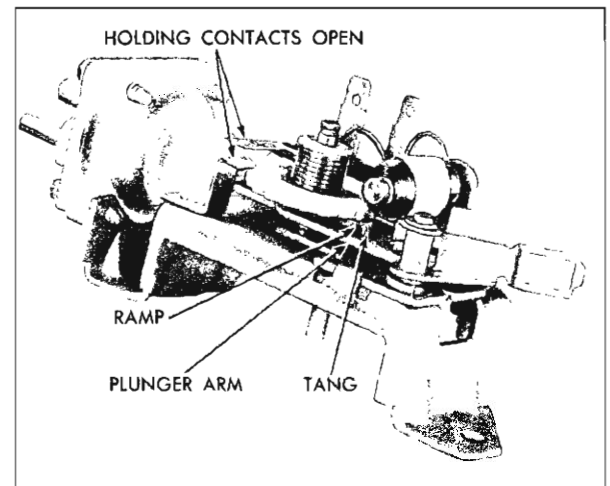
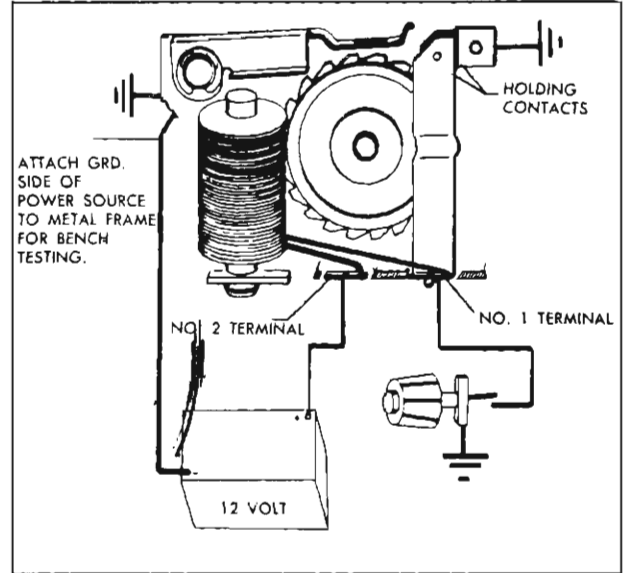
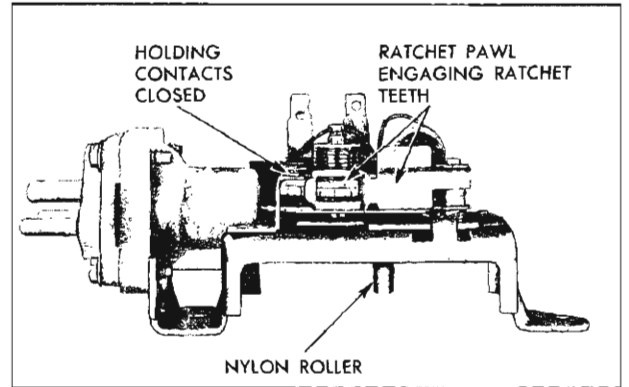
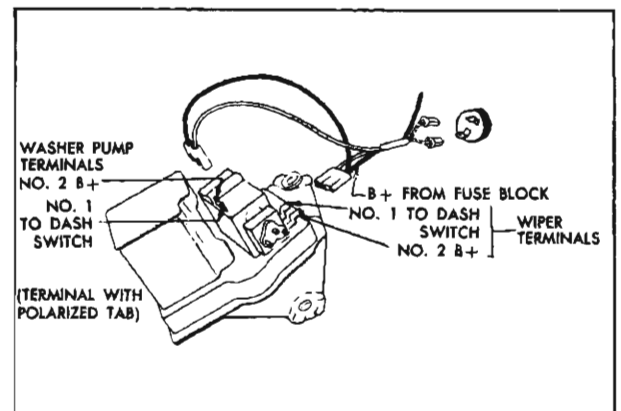

Fig. 66—Releasing Pump From Lockout Position
Fig. 69—Bench Checking Pump Operations
Fig. 70—Washer Holding Contacts Closed
Fig. 71—Checking Washer Operating Voltage
- b. Manually operate pump clockwise to release pump from "lock-out" position (fig. 66).
<p>A. Washer Inoperative</p> <ol style="list-style-type: none"> 1. Check the following items: <ol style="list-style-type: none"> (1) Jar has adequate quantity of water solution. (2) Hoses are not damaged and hose connections are tight. (3) Screen at end of jar cover hose is not plugged. (4) Electrical connections to washer pump and dash switch. (5) Nozzles are not plugged. 2. If all items in step No. 1 check out, start wiper motor only, then push washer button and listen for "click" as washer relay pulls in. If no "click" is heard, check for 12 volts at terminal No. 2 (fig. 71). No voltage indicates defective wiring. If "click" is heard, proceed to step 4. 3. If correct voltage was found in step No. 2, connect a jumper wire from terminal No. 1 to ground (fig. 71) and operate wiper. If washer relay "click" is heard and pump functions correctly, a defective dash switch or an open circuit between washer pump and dash switch is indicated—"No Click" indicates an open relay coil. 4. If relay "click" is heard in Step 2, listen for the soft clicking as the pump ratchet wheel is rotated. <ul style="list-style-type: none"> —If "soft clicking" is not heard, the pump mechanism is faulty and should be removed from the wiper motor and checked. —If soft clicking is heard but no pumping action occurs, replace the valve assembly and recheck pump. 5. Check for proper gear engagement. Check to see that cam gear teeth are not damaged. 	<p>Check Pump Operation as Follows:</p> <ol style="list-style-type: none"> 1. Remove washer pump cover and connect 12 volt power supply to washer pump as shown in Figure 69. Connect jumper wire from terminal No. 1 to ground. Turn ratchet pawl to the position shown in Figure 70. Ratchet pawl should be pulled toward relay pole and engage ratchet teeth. Failure to do as described above indicates an open relay coil. 2. If relay and ratchet pawl perform correctly in Step 1, manually actuate the slide and ratchet pawl to turn the ratchet wheel one tooth. Observe if relay holding contacts close (fig. 70) and the pump plunger arm is released from its lock-out position. (Figure 66 shows plunger arm in lock-out position.) 3. Disconnect jumper wire from terminal No. 1. Relay coil should remain energized and hold ratchet pawl against ratchet wheel. Failure to do so indicates open or dirty holding contacts. 4. If pump performs correctly in Step 3, continue to manually actuate the slide and ratchet pawl until the ratchet wheel has been turned through 360° or 21 teeth. After the ratchet wheel has been rotated 21 teeth, the holding contacts should be opened by a "hump" on the wheel and the pump plunger arm should be in the "lock-out" position (fig. 66). <p>Check Valve Assembly as follows:</p> <ol style="list-style-type: none"> 1. Attach a hose to the large or intake pipe. You should be able to blow through it but not draw through it. 2. Attach a hose individually to each of the small or exhaust pipes. You should be able to draw through them but not blow through them. If any of three valves allow air to pass in both directions, the valve assembly is defective.